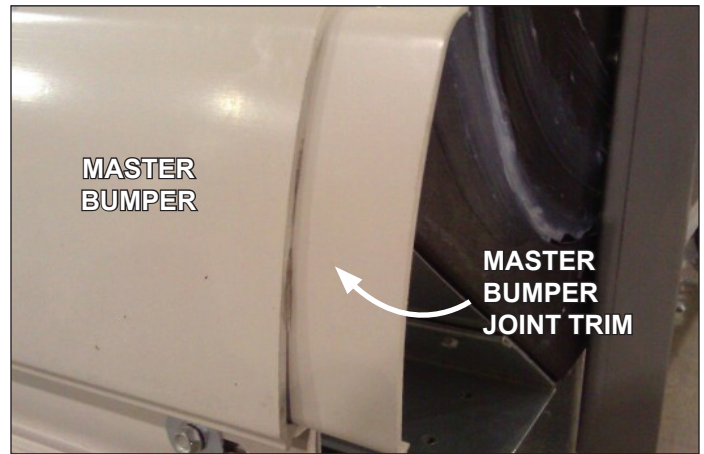

Fig. 4 Master bumper and joint trim
1. To align the master bumpers, install the master bumper joint trim in between adjoining master bumpers. (Fig. 4). Slide the master bumpers left or right to close the seams as required, working outwards from the center of the line-up to the ends.